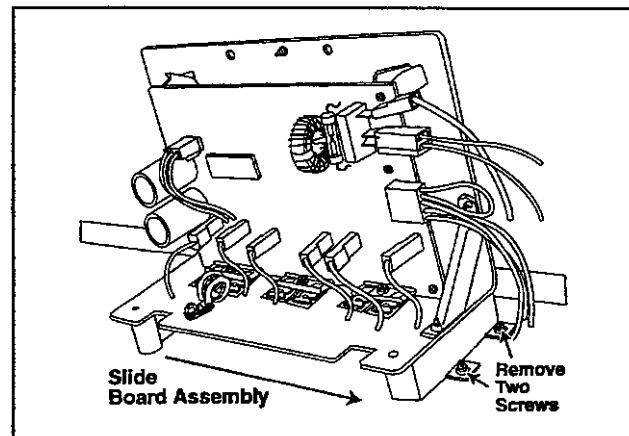

Figure 8-4
- Remove the wire harness leading to the control console (*Figure 8-4*).